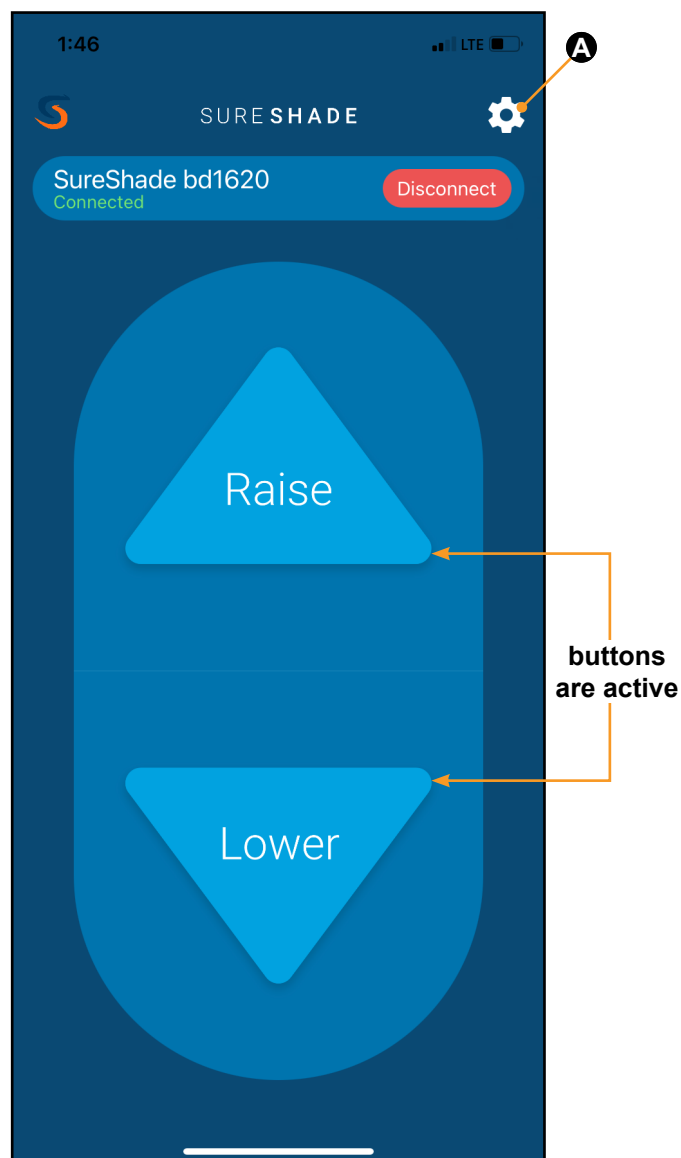
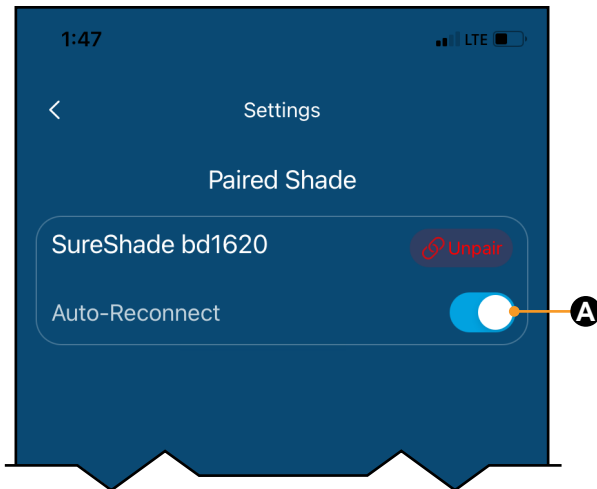

Fig.56
Fig.59
J. The controller and the paired smart device are now connected and the **Raise** and **Lower** buttons are now active (Fig.56).
A. With the app open to the **Raise** and **Lower** button screen (Fig.56), tap the gear icon (Fig.56A) to access the Settings screen (Fig.59).